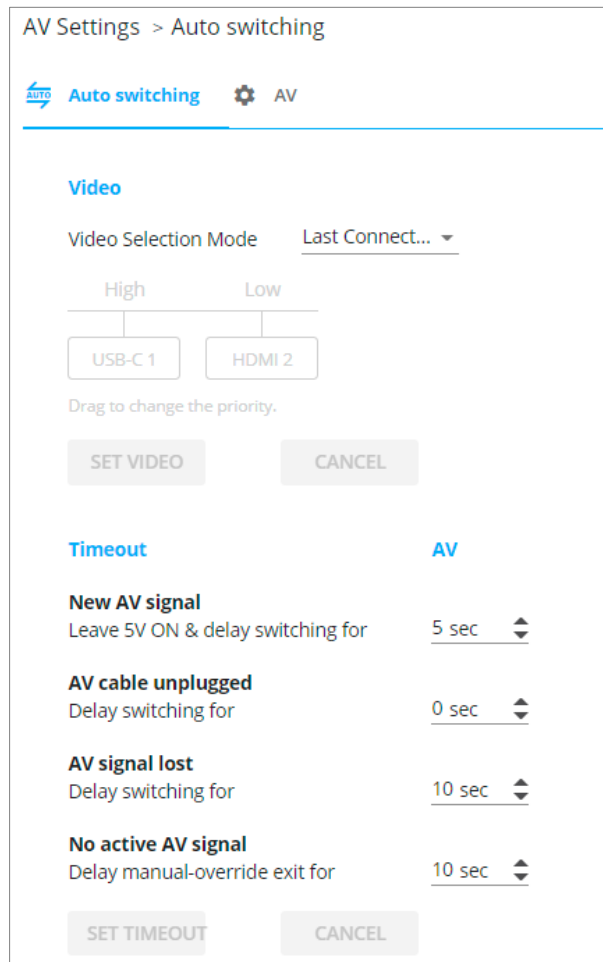

Figure 13: AV Settings > Auto switching Tab
1. Go to the AV Settings > Auto switching tab (Figure 13).